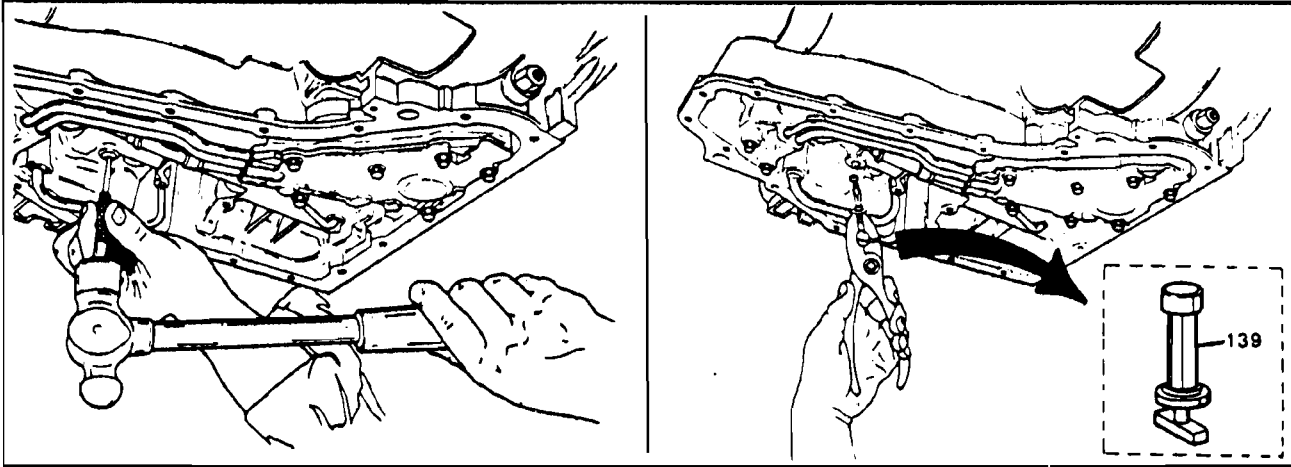

Figure 43
- (2) 1-2 BAND STOP ASSEMBLY - The 1-2 Band Stop has been eliminated as it is no longer needed (See Figure 43).
The new style 1-2 Band Assembly can be used to service ALL past models, but the 1-2 Band Stop MUST be removed and discarded (See Figure 43).